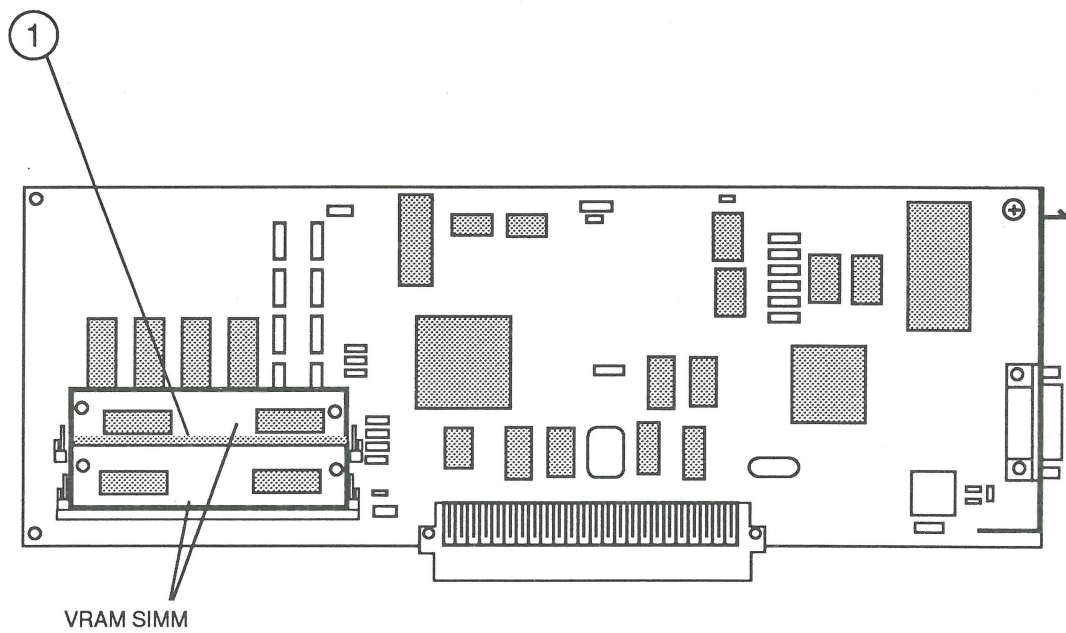

FIGURE 7
IPL.13	Macintosh Display Card 4/8 (Figure 7)
□ MACINTOSH DISPLAY CARD 4/8 (Figure 7)